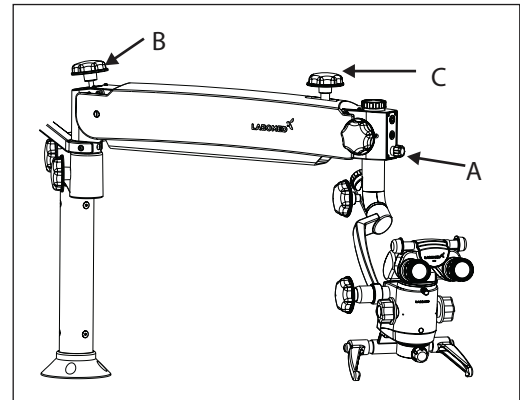

Fig. 9
5. The illumination is controlled through the control knob (A), fig. 9. Rotate it clockwise or anti clock wise to achieve desired illumination level Functional setup keep it as minimum.